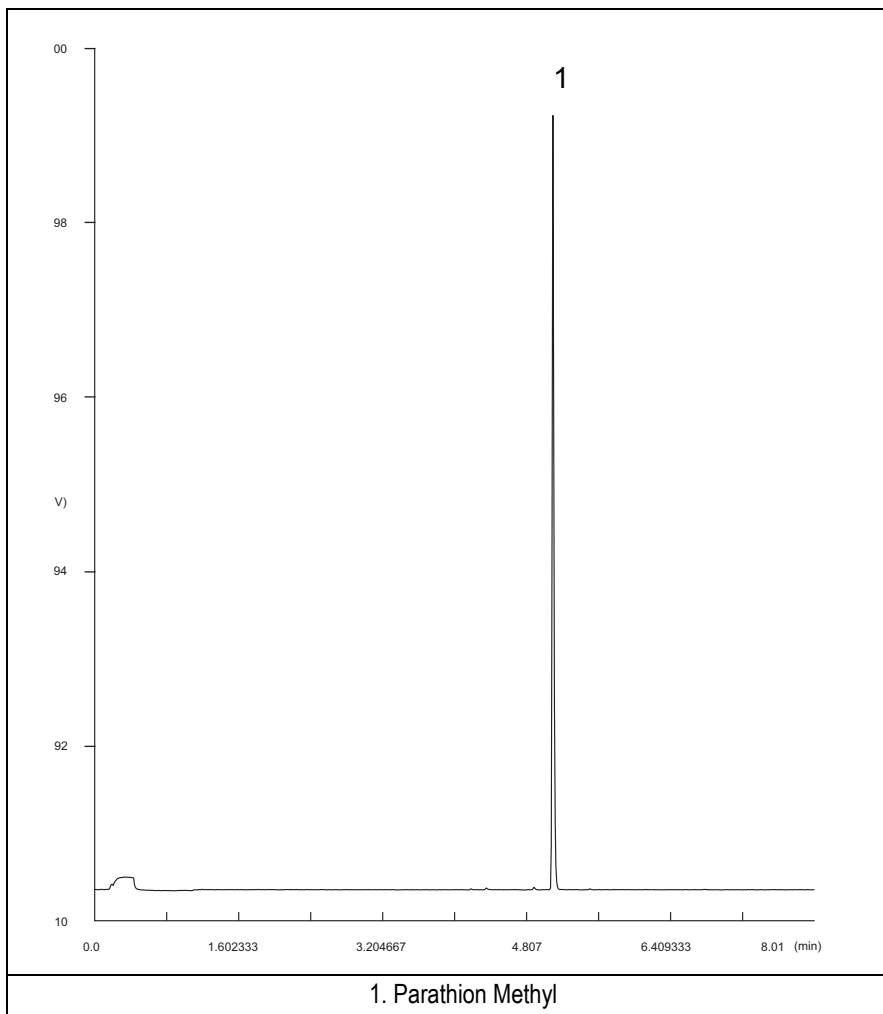

Figure 17-1. FPD-Splitless Injection with 526 nm filter
13. When the GC is ready, inject the test mixture and press **START** on the GC to begin the checkout run. The resulting chromatogram should look like the one shown in *Figure 17.1* or *17.2*.